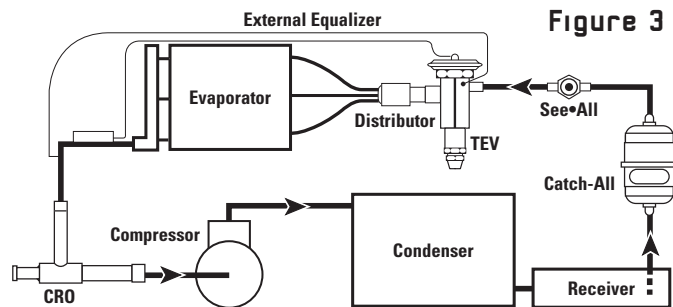

Figure 3
**CRO LOCATION** – As figure 3 illustrates, the CRO valve is applied in the suction line between the evaporator and the compressor. Normally, the CRO is installed
**PIPING INSTRUCTIONS** – Figure 3 is a piping schematic only to illustrate the general location of the CRO valve in the system. Sporlan recommends that recognized piping references be consulted for assistance in piping procedures. Sporlan is not responsible for system design, any damage arising from faulty system design, or for misapplication of its products. If these valves are applied in any manner other than as described in this bulletin, the Sporlan warranty is void.